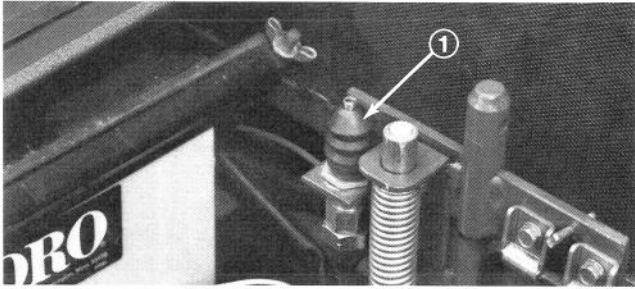

Figure 33
3. Remove boot from button end of seat switch (Fig. 33). Retain boot for reinstallation. Separate switch wire connectors.